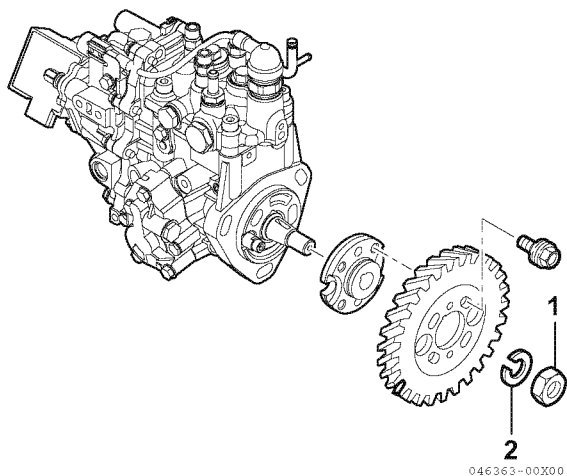

Figure 7-21
5. Reinstall the fuel injection pump drive gear lock washer (Figure 7-21, (2)) and nut (Figure 7-21, (1)). Do not lubricate the threads of the nut or shaft. Hold the crankshaft pulley bolt with a socket wrench and tighten the drive gear nut to the specified torque. See *Special Torque Chart* on page 7-5.